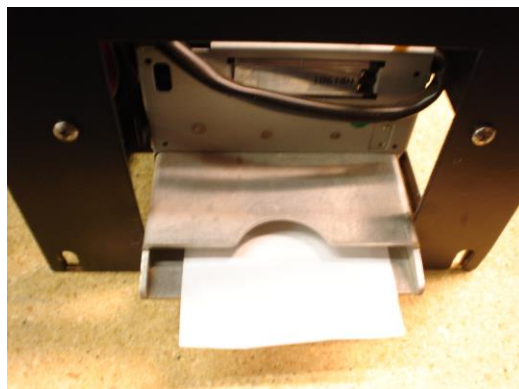

Figure P4: AC7084 Printer – Front View, Paper Fed Through
3. Wrap the paper under the "Paper Guide," and begin to feed it into the "Paper Slot." You do not need to fold or cut the paper in any way; it should be left square in the front. Continue to feed the paper into the slot, through the print head, until it passes out through the front of the machine (refer to Figure P4).